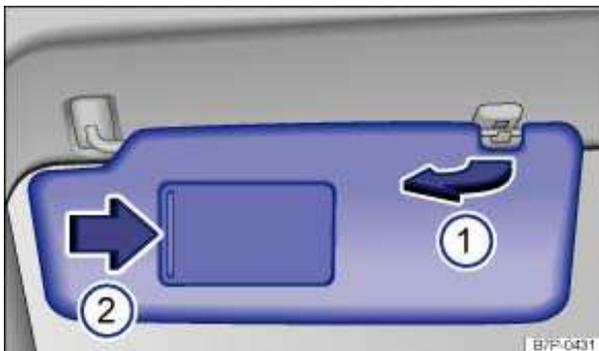

Fig. 86 Sun visor.
- Lift out of mounting and move toward the doors ⇒ fig. 86 \(1\).